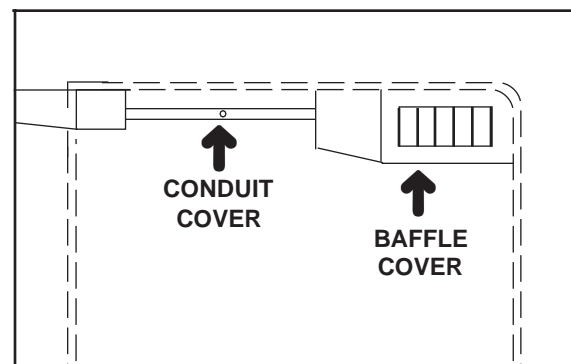

Figure 22
1. Remove the screw securing the conduit cover over the wiring harness from the top left edge of the refrigerator section. (Fig. 22)